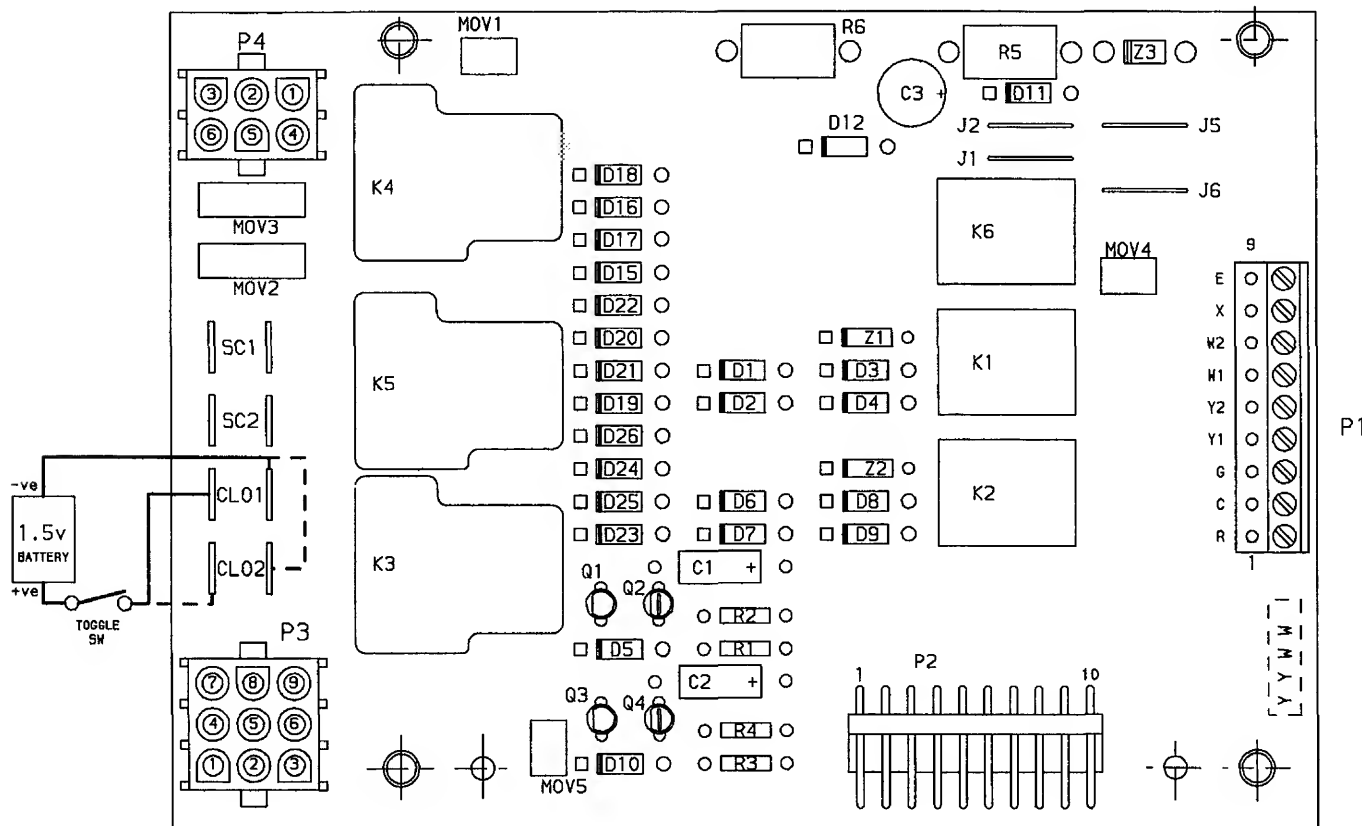

Fig. 34 – Compressor Lockout Connections
- Turn unit power off. Use a toggle switch to connect a fresh 1.5-v battery to the terminals marked CLO1 as shown in Fig. 34.
The negative (-Ve) pole of the battery must be connected to the inner terminal and the positive (+Ve) pole must be connected to the outer terminal as shown in Fig. 34.
- d. Turn unit power off. Connect a fresh 1.5-v battery to terminal marked CLO2 as shown in Fig. 34.
The negative (– Ve) pole of the battery must be connected to the inner terminal and the positive (+ Ve) pole must be connected to the outer terminal as shown in Fig. 34